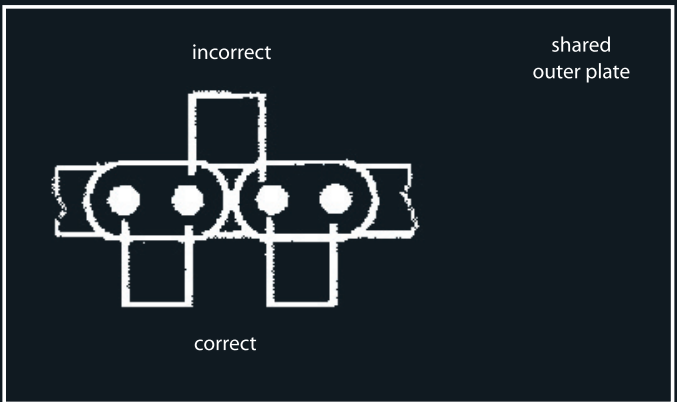

Fig. 2
- With most motorcycles, it is only possible to assemble a new chain without having to remove the link when the chain is open. When using an endless chain, this must first of all be disconnected. To disconnect, two neighbouring bolts that have a shared outer plate as shown in Figure 2 must be pressed out.